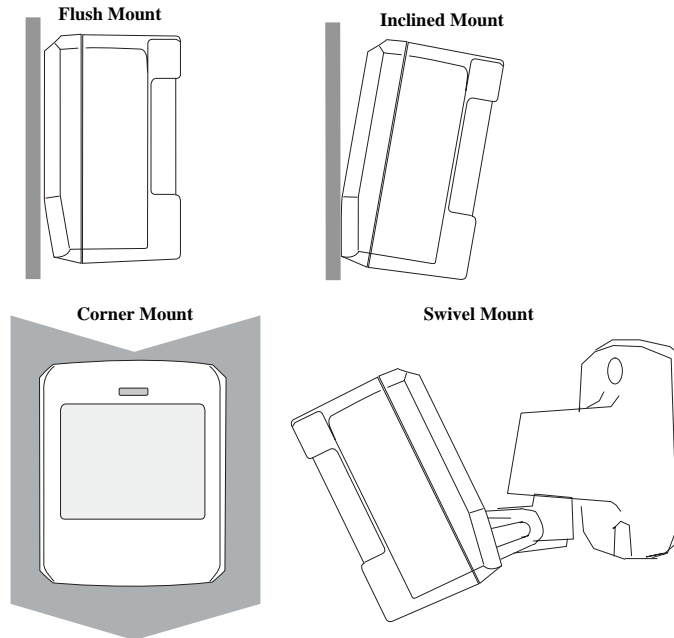
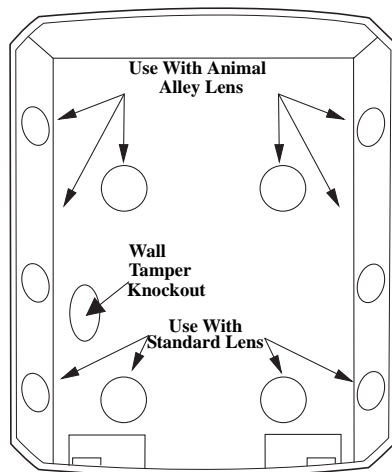

Figure 5. Wall Mounting Options
Figure 6. PIR Mounting Plate Knockouts
The sensor can be flush-mounted, incline-mounted, or corner-mounted depending on the lens used (see Figure 5). Also, the optional swivel mount (#60-737) can be used for difficult mounting locations.
2. Punch out the mounting holes that best fit your application. See Figure 5 for wall mount options. See Figure 6 to determine which knockouts to use when mounting the motion sensor. Use the lower-side holes for corner mounting, or the lower-back holes for surface mounting with the standard lens.
4. If you desire wall-tamper functionality, remove the wall-tamper knockout (see Figure 6).